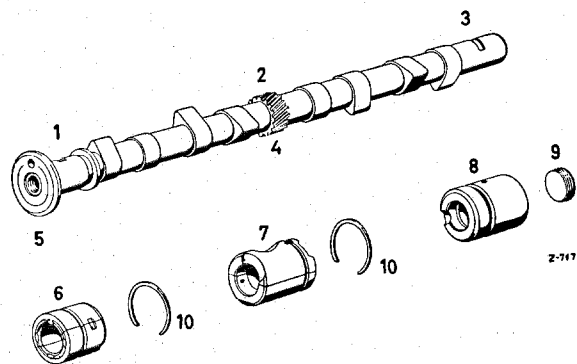

Figure 05-35/4
Then drive in the 3rd camshaft bearing with the Assembly Bolt Part No. 136 589 03 39 from the rear towards the front, so that the bores of the locating screw (3) in the 3rd camshaft bearing and in the crankcase coincide (see Figure 05-35/1).